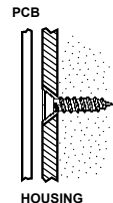

Figure 2: Mounting Screw Position
8. Mount the back cover to the wall using two screws and replace the PCB. Use ISO 7050 (ST3.5 x 22) or similar countersunk screws so that the screw head will not touch the PCB – see Figure 2.